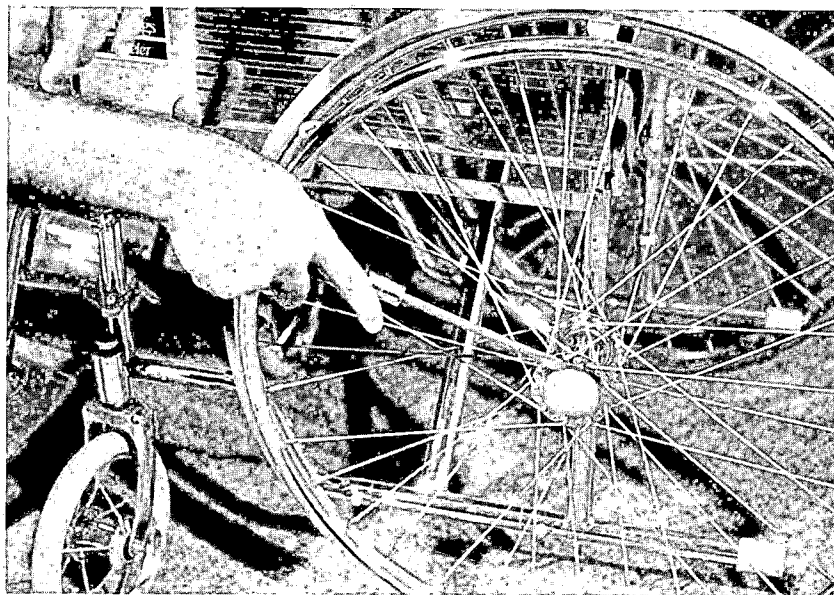

Figure 2
2. Insert a flat-blade screwdriver under the edge of the hub cap. Twist it right and left until the cap comes free. The wheel is attached to the frame with an axle bolt and a locknut. The locknut is first removed; then the axle is withdrawn. See figure 2.